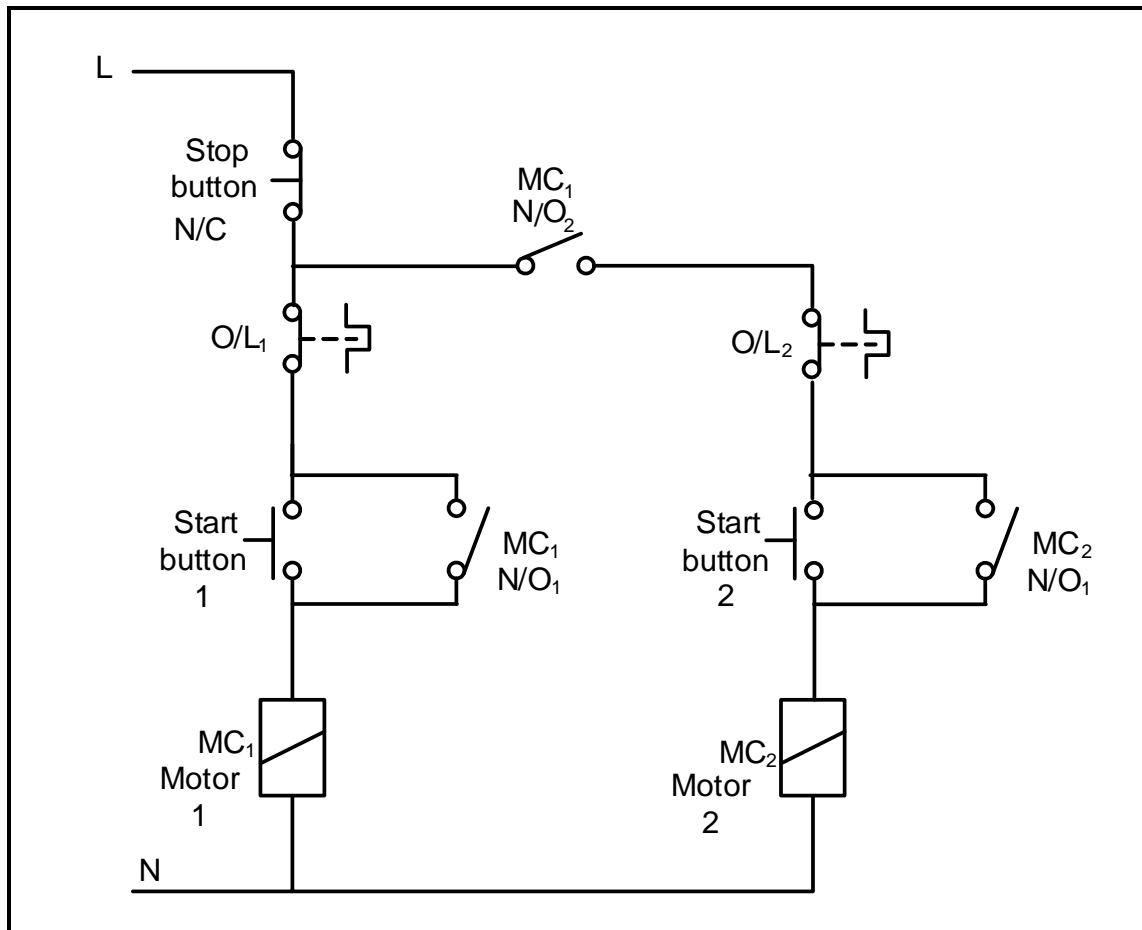

FIGURE 5.3: CONTROL CIRCUIT
- 5.3 Study FIGURE 5.3 below and answer the questions that follow.
- 5.3.1 Identify the control circuit in FIGURE 5.3. (1)
- 5.3.2 Explain the function of the following components in FIGURE 5.3:
- (a) Stop button (2)
- (b) MC₁ (N/O₁) (3)